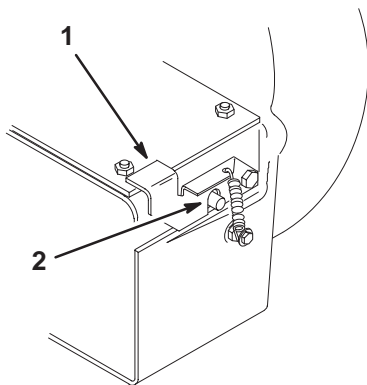

Figure 18
4. With the belt installed, swing the blower toward the mower until the blower latch locks over the pin at the back of the mower (Fig. 18).